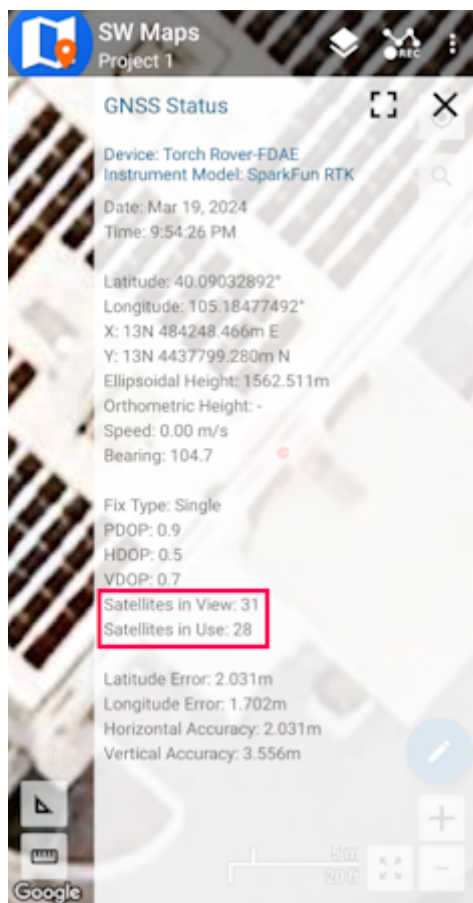

Figure 6
8. Now put the device outside with a clear view of the sky. GNSS doesn't work indoors or near windows. Press the SW Maps icon in the top left corner of the home screen and select **GNSS Status**. Within about 30 seconds you should see 10 or more satellites in view (SIV) (Figure 6). More SIV is better. We regularly see 30 or more SIV. The horizontal positional accuracy (HPA) will start at around 10 meters and begin to decrease. The lower the HPA the more accurate your position. This accuracy is around 2m in normal mode.